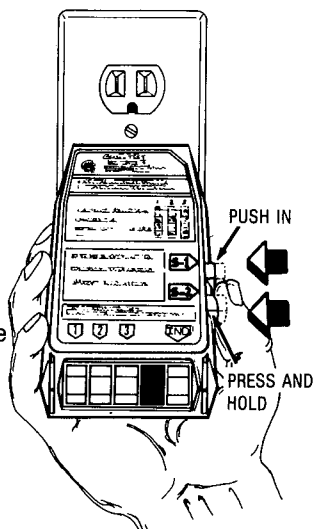

Figure 14
Step 3. Press the black (S-1) (IN).
Step 4. Press and hold the red (S-2) (Fig. 14).